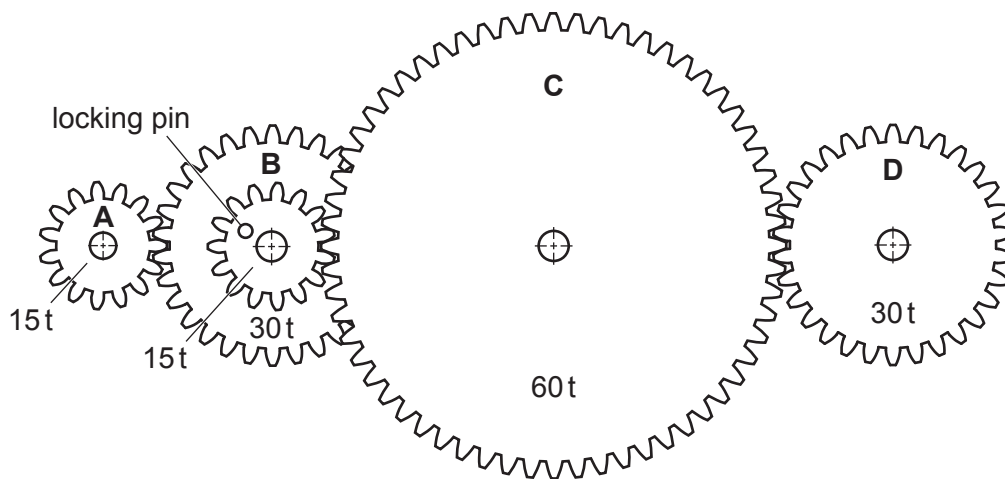

Fig. 11.4
- (d) Fig. 11.4 shows a compound gear train. The 15t and 30t gears **B** are locked together by a pin.